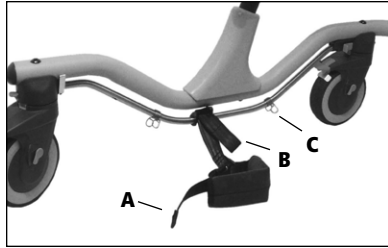

Figure 25
The four straps (D) can be adjusted independently to snug or loosen the Chest Prompt or to adjust the forward leaning angle of the user. Refer to Figures 25 and 26 in *Operation*. The Chest Prompt pads open front and back so that users can be placed in the item easily in both the anterior and posterior position.
See Figure 25